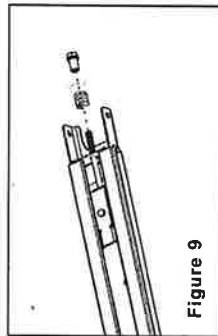

Figure 9
3. As Fig.9, release the nut & spring.